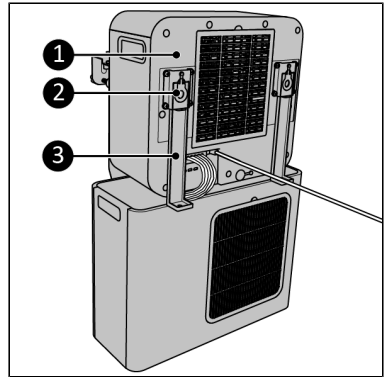

Figure 30.
6. Attach the top caravan brackets (Figure 30, pos. 3) to the indoor unit (Figure 30, pos. 1) by using the rubber hooks (Figure 30, pos. 2).